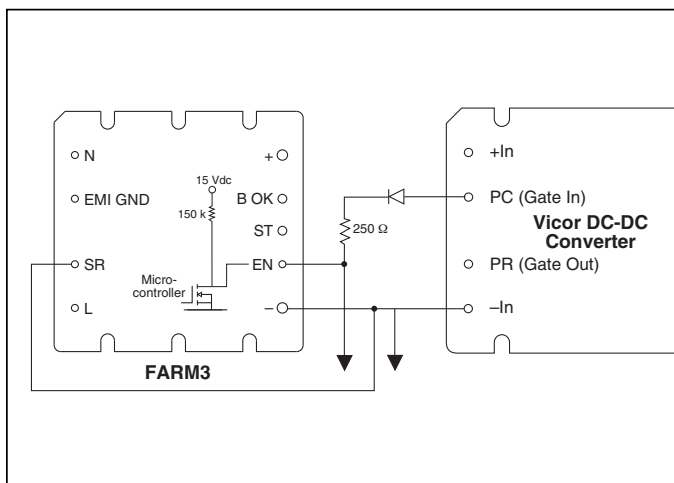

Figure 11 — Enable (EN) function
**Strap (ST) Pin.** In addition to input and output power pin connections, it is necessary to connect the Strap pin to the center junction of the series hold-up capacitors (C1, C2) for proper (autoranging) operation. Varistors V1 and V2 provide capacitor protection. The bleeder resistors (R1, R2) discharge the hold-up capacitors when power is switched off. Capacitors C7 and C8 are recommended if the hold-up capacitors are located more than 3 inches (75mm) from the output pins.
**Enable (EN) Pin.** The Enable pin must be connected to the PC or Gate-In pin of all converter modules to disable the converters during power-up. Otherwise, the converters would attempt to start while the hold-up capacitors are being charged through the current limiting thermistor, preventing the bus voltage from reaching the thermistor bypass threshold, thus disabling the power supply. The Enable output (the drain of an N channel MOSFET) is internally pulled up to 15 V through a 150 k $\Omega$  resistor. (see Figure 11)